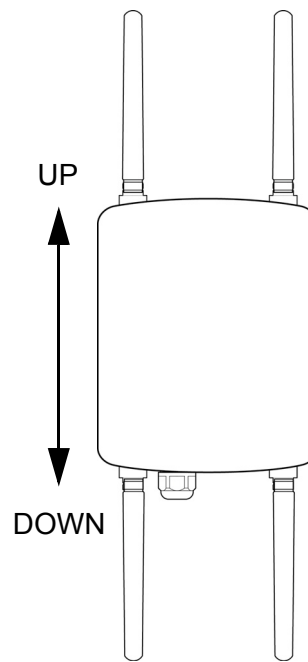

Figure 14. Vertical Orientation of Dipole Antennas
- ❑ When installing the access point, orient the mounting base and chassis in a vertical position such that the dipole antennas are running in the up and down directions. Refer to Figure 14.
2. Orient the mounting base so the dipole antennas are vertically positioned. Refer to Figure 14 on page 47.